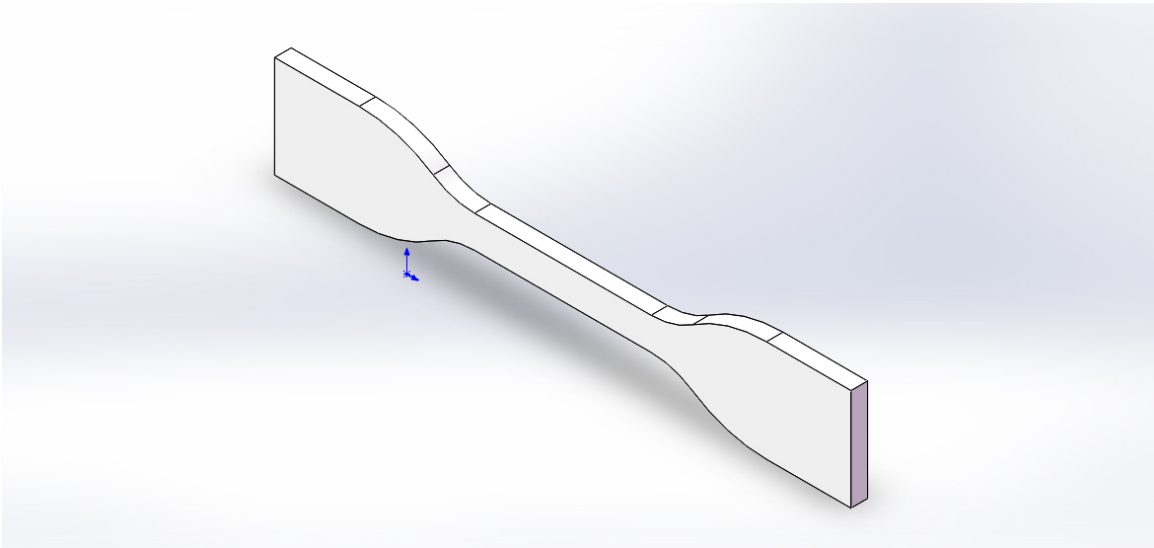

Fig2. Dog-bone shape designed in Solidworks
Step13: Design the dog-bone shape and make drawings in Solidworks. **(Fig.2)**